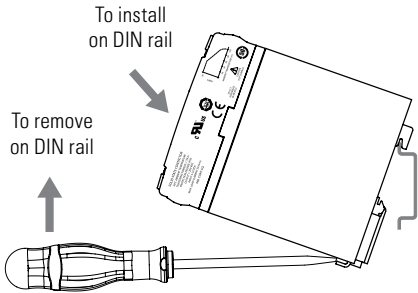

fig.1 SSR mounted on DIN rail
- Install the relay on the DIN Rail (as shown in fig. 1)